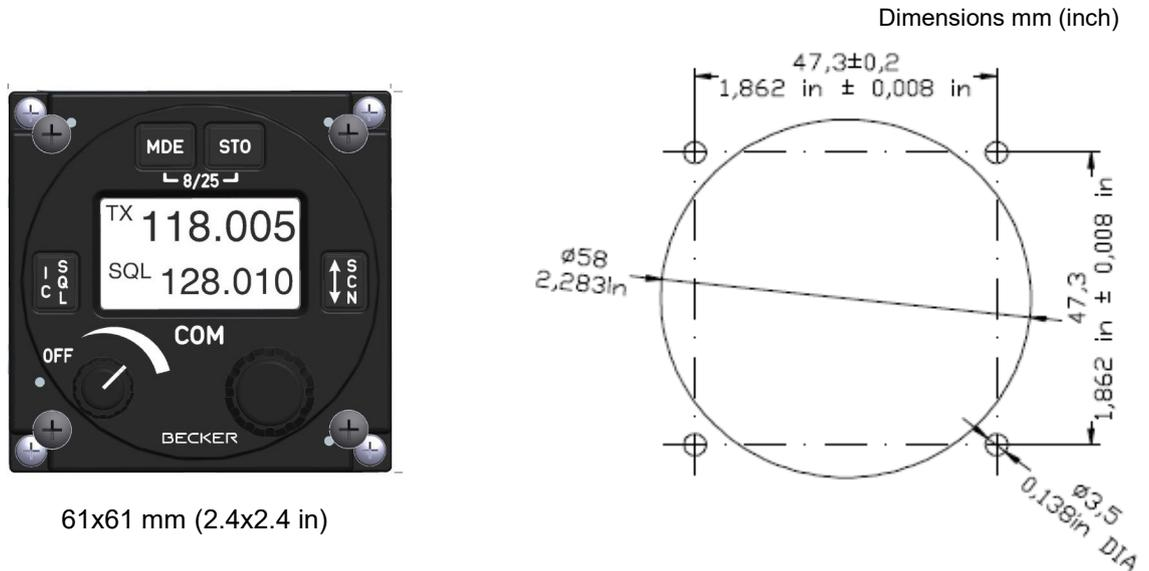

Figure 2-2:
- For unit dimensions refer to Figure 2-5, Figure 2-4 and Figure 2-2.